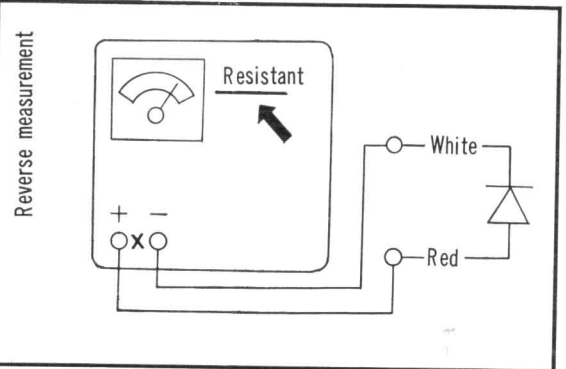

Figure 5-41. Measuring in the reverse direction
- c. Measuring in the reverse direction (C50, C65, S50, S65). Perform the measurement in the same manner as for the normal direction measurement but with the tester "X" terminals connected in reverse, the ⊖ connected to the white lead of the selenium rectifier and the ⊕ side to the red lead of the rectifier. The selenium rectifier is in good condition in the reverse direction if it measures over 1500Ω (Fig. 5-41)